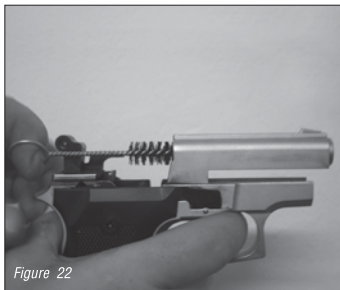

Figure 22
- After you finished with using the gun, clean and lubricate the cartridge chamber shown in Figure 22.
- Always keep the magazine (261) empty at times you will not use the gun.
- In case you have a problem of functioning, replace the cartridges with others that were manufactured by a different company. Clean the barrel and cartridge chamber (Figure 22). If the problem is still not solved, please ask help from the seller where you have bought the gun.